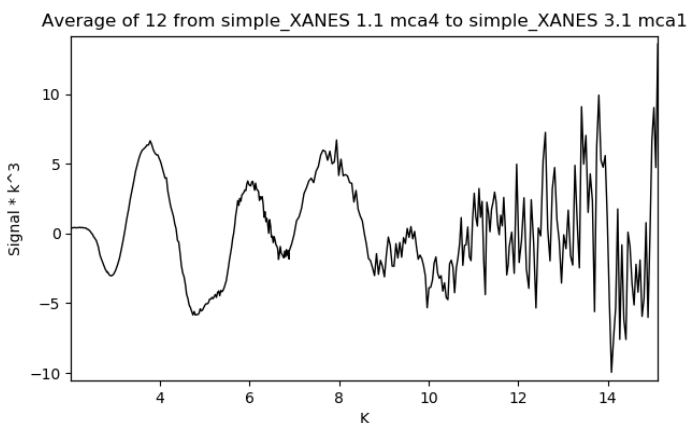

Figure 2-3: A plot of the k^3 -weighted EXAFS is shown.
- 3) Let's compare this to the k^3 -weighted EXAFS. To view those we need to backtrack a little bit and redo the average of the mca channels. Click one of the scans in panel A, hit the "Replace" button in panel C, and then click the other two scans to replot all of the mca data. Redo the average, then go to 1D Plugins > XAS > EXAFS * k^3 to generate the k^3 -weighted EXAFS (Figure 2-3).